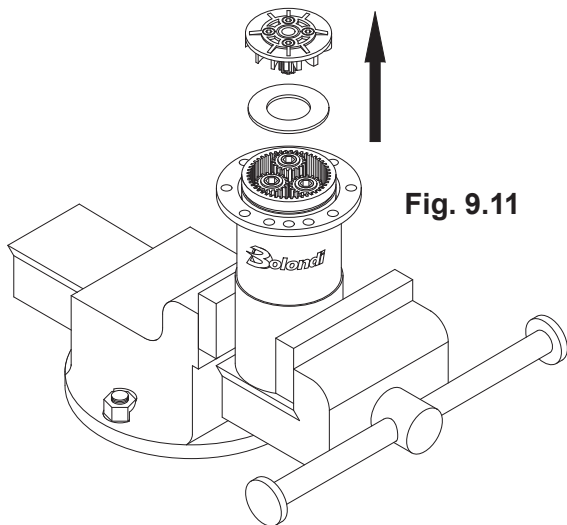

Fig. 9.11
9.4.03) Take all the parts off the head as shown in fig.9.11 and fig.9.12.